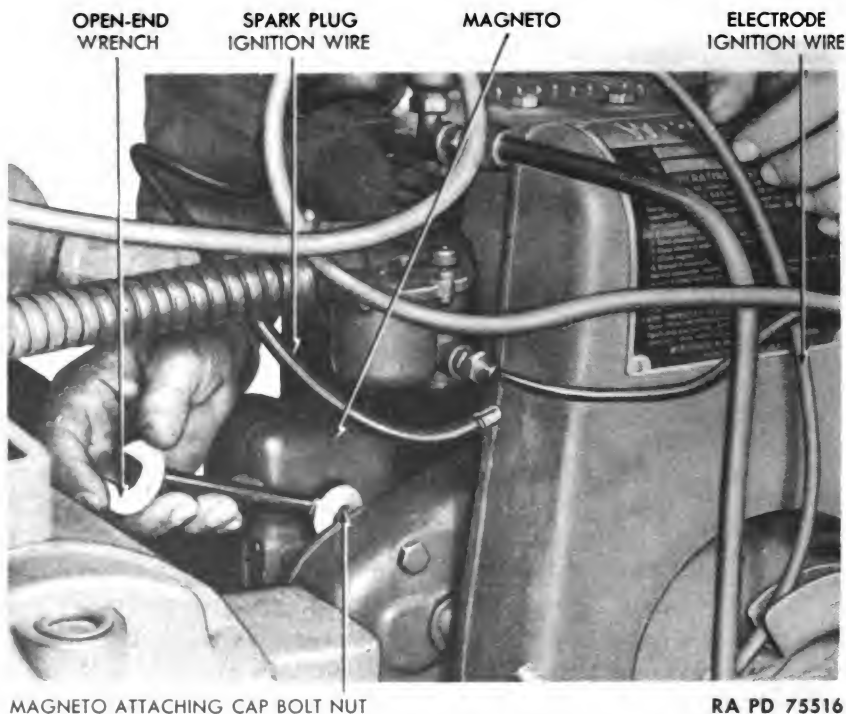

Figure 113 — Removing Steam Generating Plant Engine Magneto
(3) REMOVAL OF MAGNETO (fig. 113).
(a) Place magneto and gasket in position on engine (fig. 113). Impulse will fit two ways. Either is satisfactory since either of two spark outlets can be used for engine ignition.
(b) Install the two magneto attaching nuts and lock washers (fig. 113).
(c) Install spark plug ignition wire and electrode ignition wire in outlets on breaker cover (fig. 113). Test operation of engine. If it fails to run, reverse the connections of the ignition wires to the magneto.